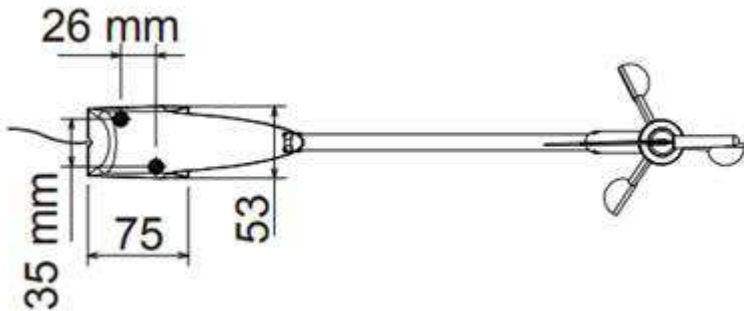

**Figure 2 : cale en coin**
- horizontal. If the mounting surface is not horizontal, for example the mast head is at an angle, manufacture a taper gib (figure 2).